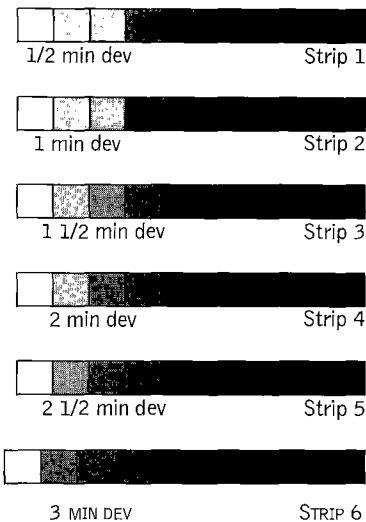

Fig 4–6. Development time assessment strips arranged for comparison
- Establish a time/temperature chart (see Fig 4–7).